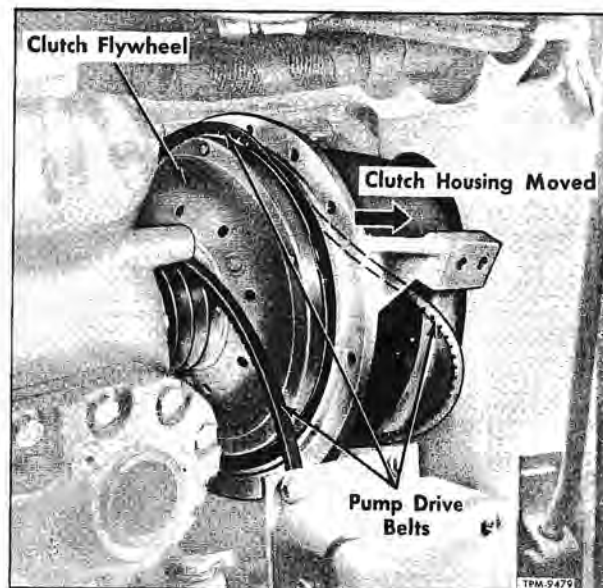

Figure 120—Replacing Condenser Fan Drive Pump Belts
10. Referring to figure 120, move clutch housing rearward into propeller shaft opening in body bulkhead. With the aid of an assistant to retain housing in position, work one belt at a time over clutch flywheel and out of opening in housing as shown.
1. Referring to figure 120, insert one belt at a time into clutch housing opening and over clutch flywheel to pulley grooves.